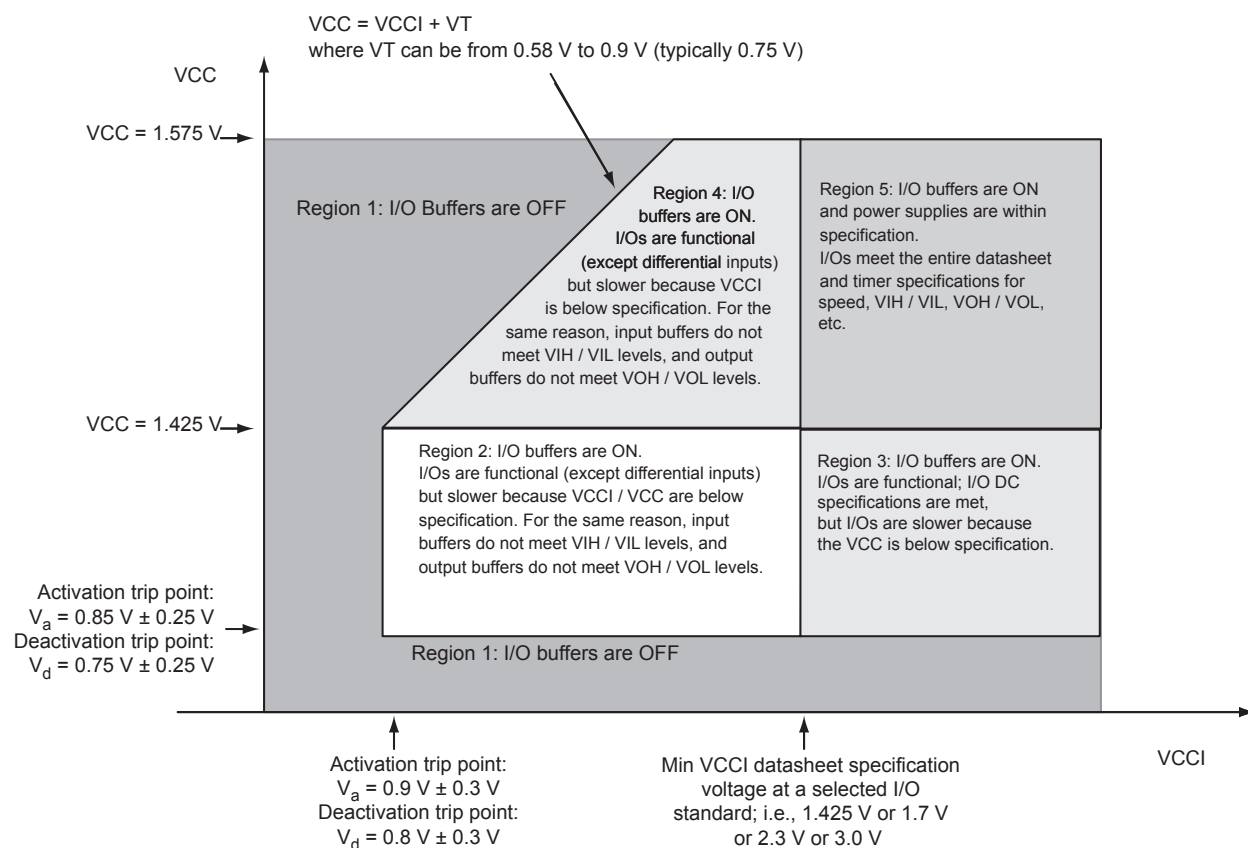
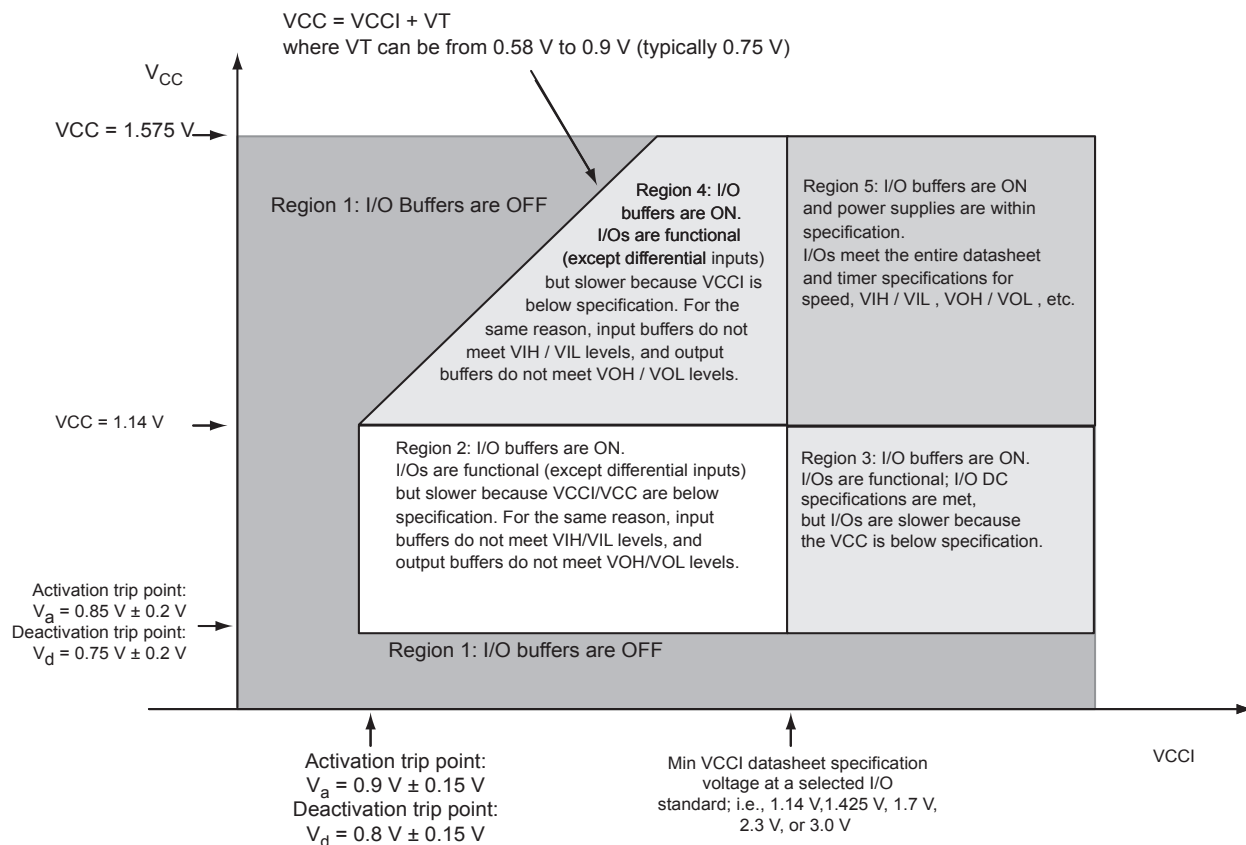

Figure 2-1 • V5 Devices – I/O State as a Function of VCCI and VCC Voltage Levels
Figure 2-2 • V2 Devices – I/O State as a Function of V_{CCI} and V_{CC} Voltage Levels
Sophisticated power-up management circuitry is designed into every IGLOO PLUS device. These circuits ensure easy transition from the powered-off state to the powered-up state of the device. The many different supplies can power up in any sequence with minimized current spikes or surges. In addition, the I/O will be in a known state through the power-up sequence. The basic principle is shown in Figure 2-1 on page 2-4.
1. VCC and VCCI are above the minimum specified trip points (Figure 2-1 and Figure 2-2 on page 2-5).
Microsemi recommends using monotonic power supplies or voltage regulators to ensure proper power-up behavior. Power ramp-up should be monotonic at least until VCC and VCCPLX exceed brownout activation levels (see Figure 2-1 and Figure 2-2 on page 2-5 for more details).